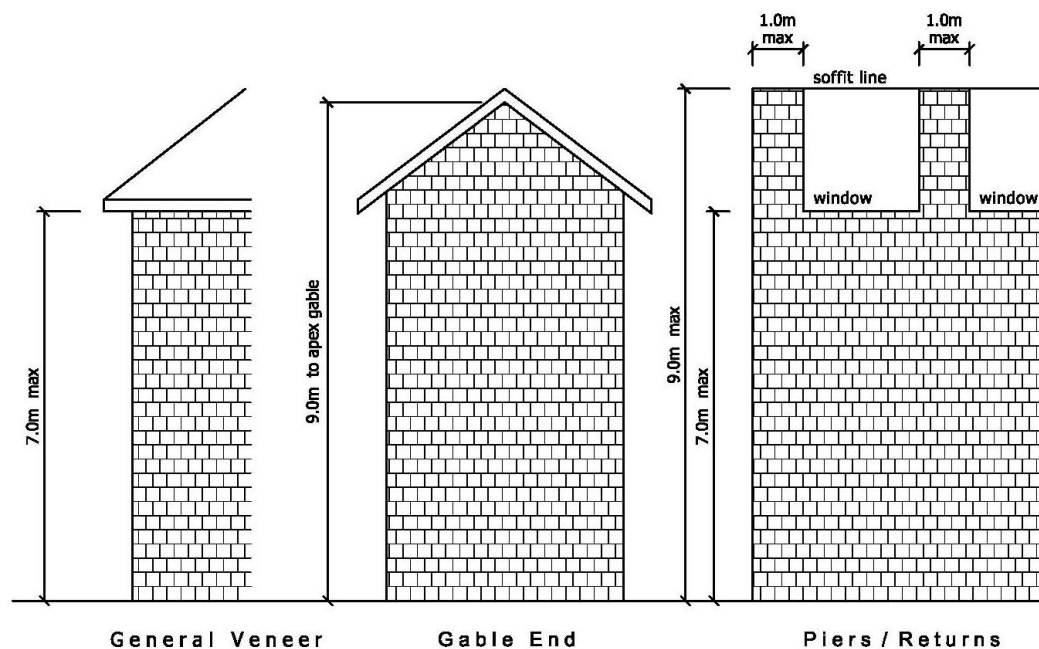

Figure 1 – Maximum Veneer Heights for two-storey stack bond construction
- Maximum veneer height of 7.0m for straight vertical panels and 9.0m to the apex of a gable or a pier as defined in this document, in accordance with Figure 1.